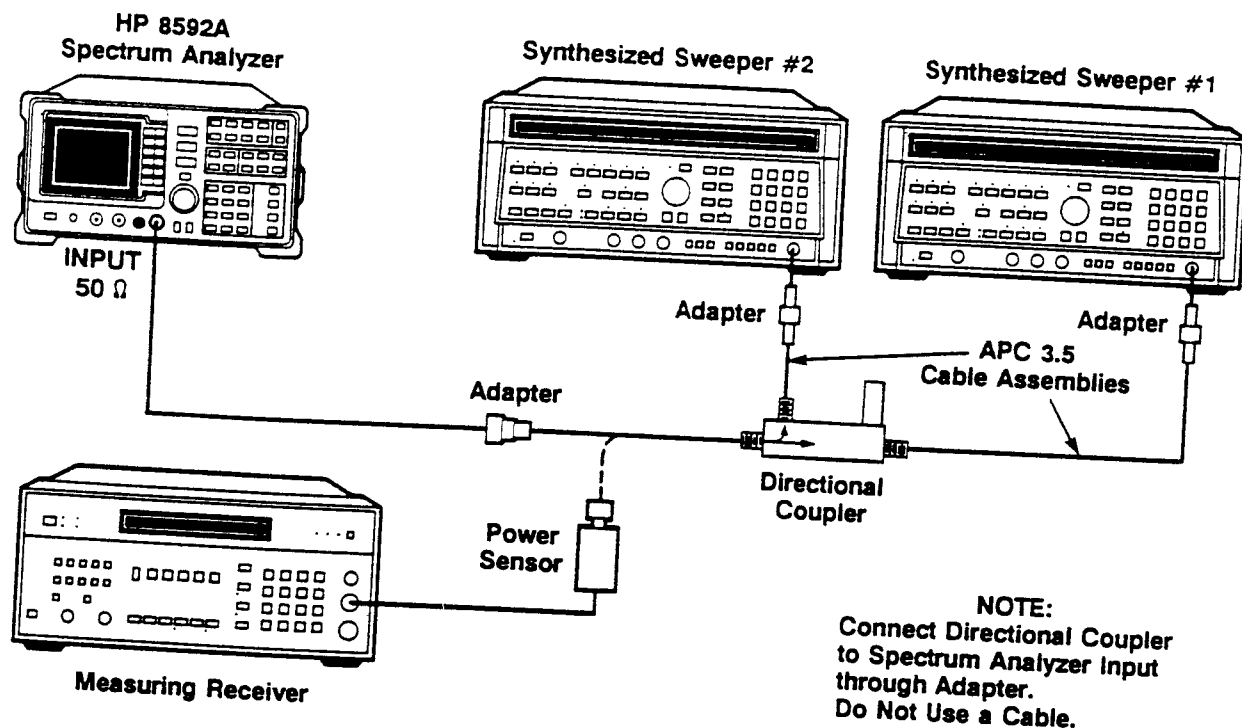

Figure 1-5. Third-Order Intermodulation Distortion Test Setup
32. Connect the equipment as shown in Figure 1-5, with the output of the directional coupler connected to the power sensor.